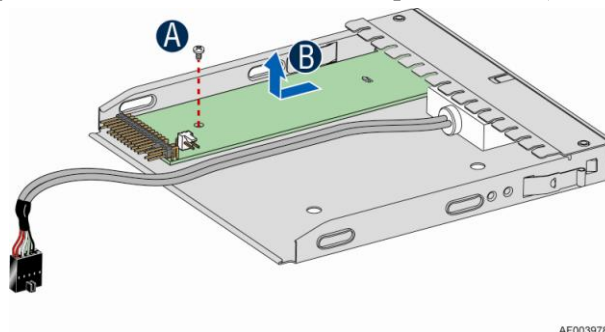

**Figure 4. Sliding the Front Panel Tray out from the Chassis**
3. Press the latch at the sides of the front panel (see letter **A** in Figure 4). And carefully slide the front panel (see letter **B** in Figure 4) out from the front of the chassis to the place (see letter **C** in Figure 5) so that you can reach the front panel and intrusion switch connectors at the rear of the front panel board. Then disconnect the front panel cable and intrusion switch cable from the front panel board (see letter **D** in Figure 5).